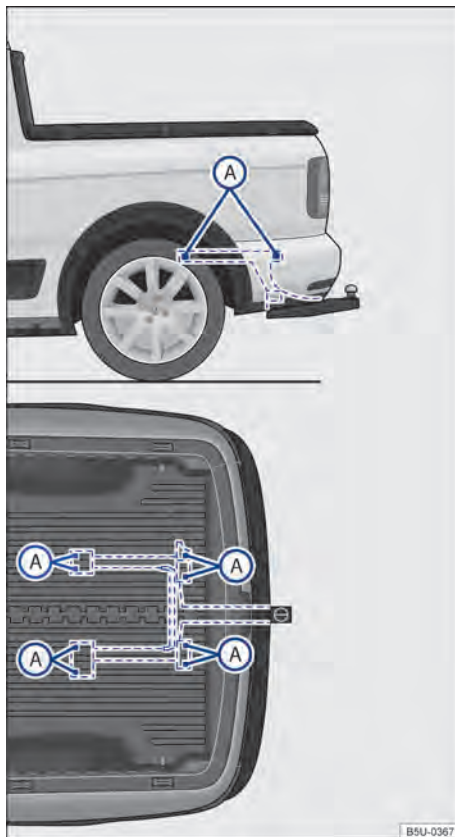

Fig. 158 Attachment points for retrofitting a towing bracket.
Figure → Fig. 158 illustrates, as an example, the fastening point to retrofit a towing bracket in the New Saveiro model.
Towing bracket retrofitting must be executed in accordance with the instructions provided by the bracket's manufacturer, always considering the attachment points indicated in → Fig. 158 (A).